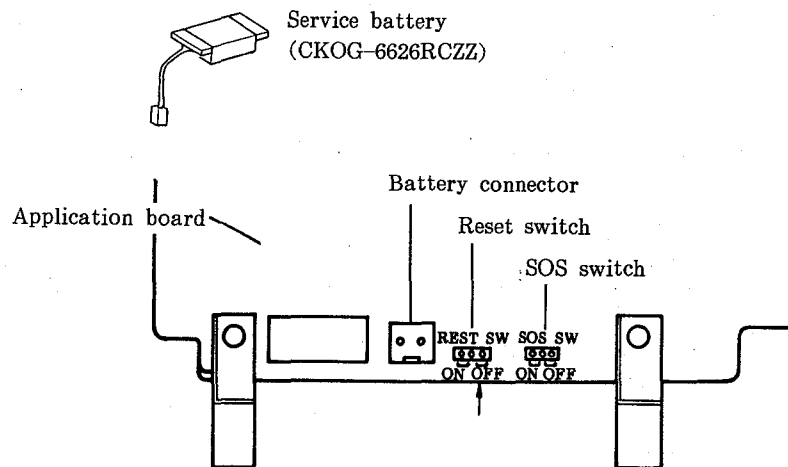
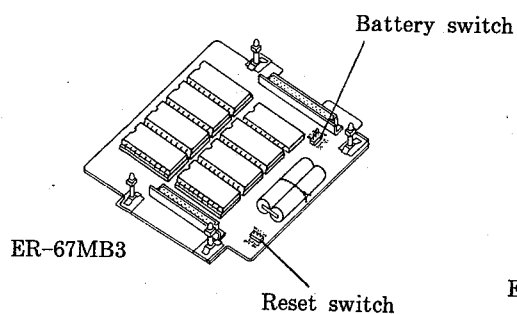
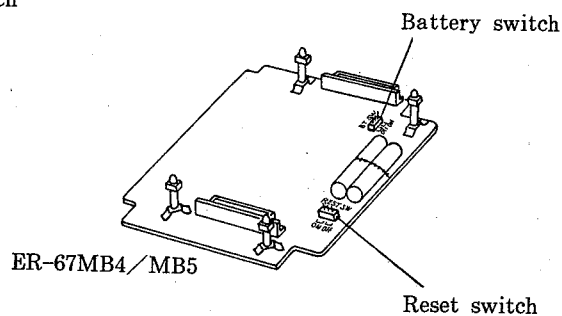

Fig.3
Fig.5
Fig.6
- a) Connect a service battery (CKOG-6626RCZZ) to the battery connector on the application board. (See Fig.3.)
- b) Set the reset switch to ON. (See Fig.3 above.)
(For switch positions, see Fig.3, Fig.5, and Fig.6.)